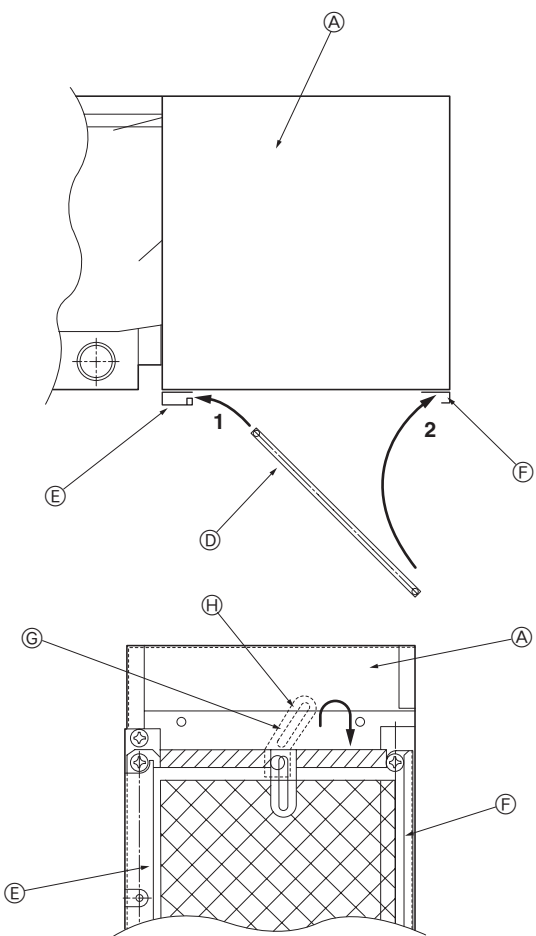

Fig. 9-5
9.5. Filter installation points (Bottom air intake) (Fig. 9-5)